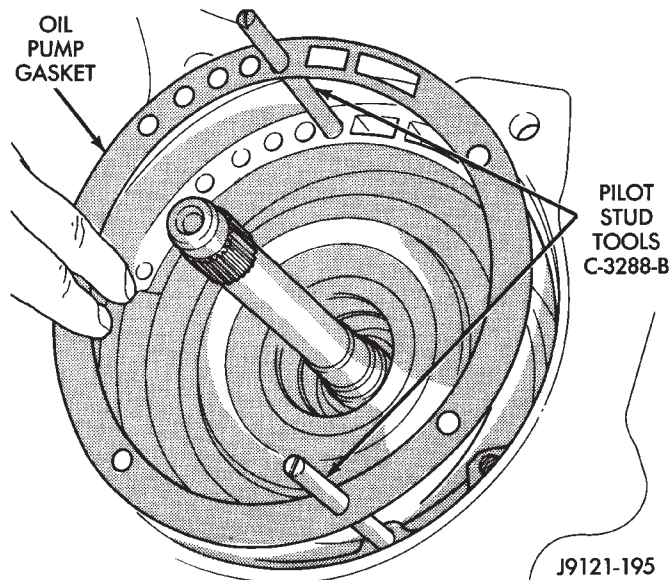

Fig. 163 Installing Pilot Studs And Oil Pump Gasket
bolt holes in oil pump flange (Fig. 163).
(34) Align and install oil pump gasket (Fig. 163).